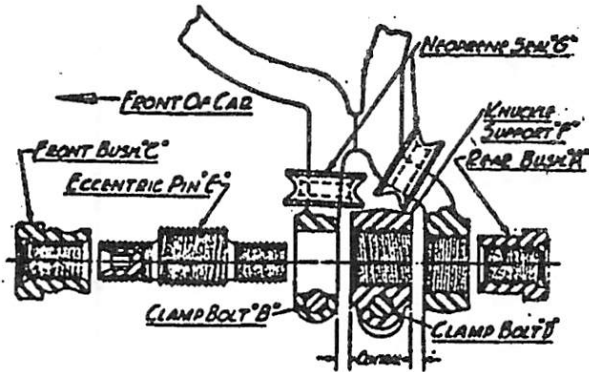

Figure 1 Showing Proper Arrangement for Assembly
3. Unscrew and remove the rear bushing "A" (Fig.1) from the upper control arm.
1. Install the rubber seals "G" over each of the forks in position shown in Fig. 1.